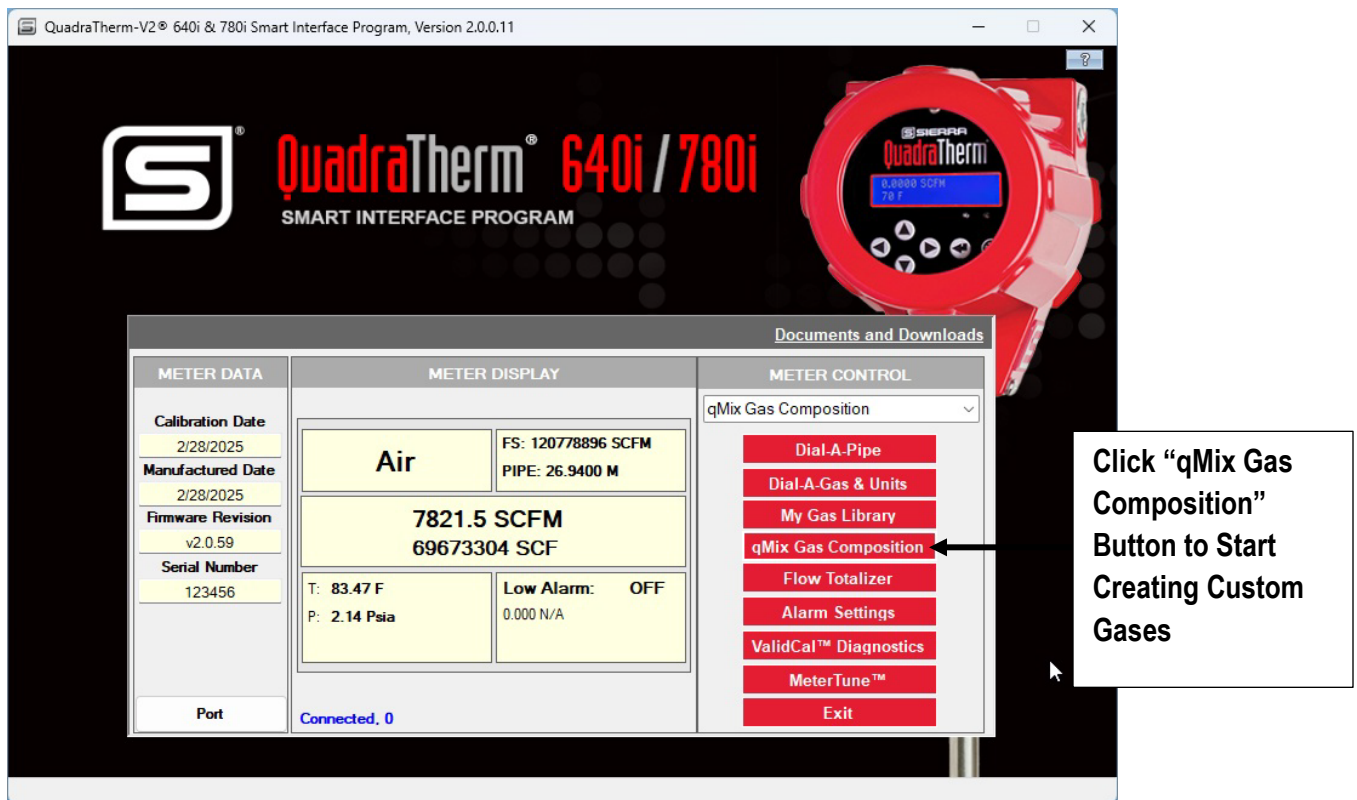

Figure 2. Main 640i/780i SIP Screen
4. Click the “qMix Gas Composition” button or select “qMix Gas Composition” from the function selector drop down on the main menu (See Figure 2).